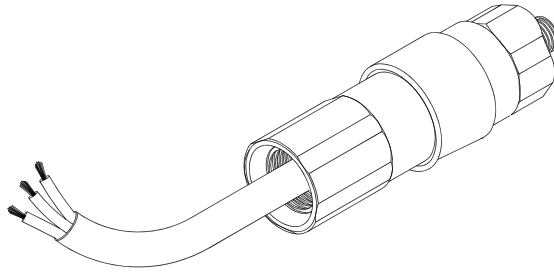

Figure 10.2.6 Zero Pressure Switch, M1133AR
10.2.4 Zero Pressure Switch, M1133AR, Figure 10.2.6